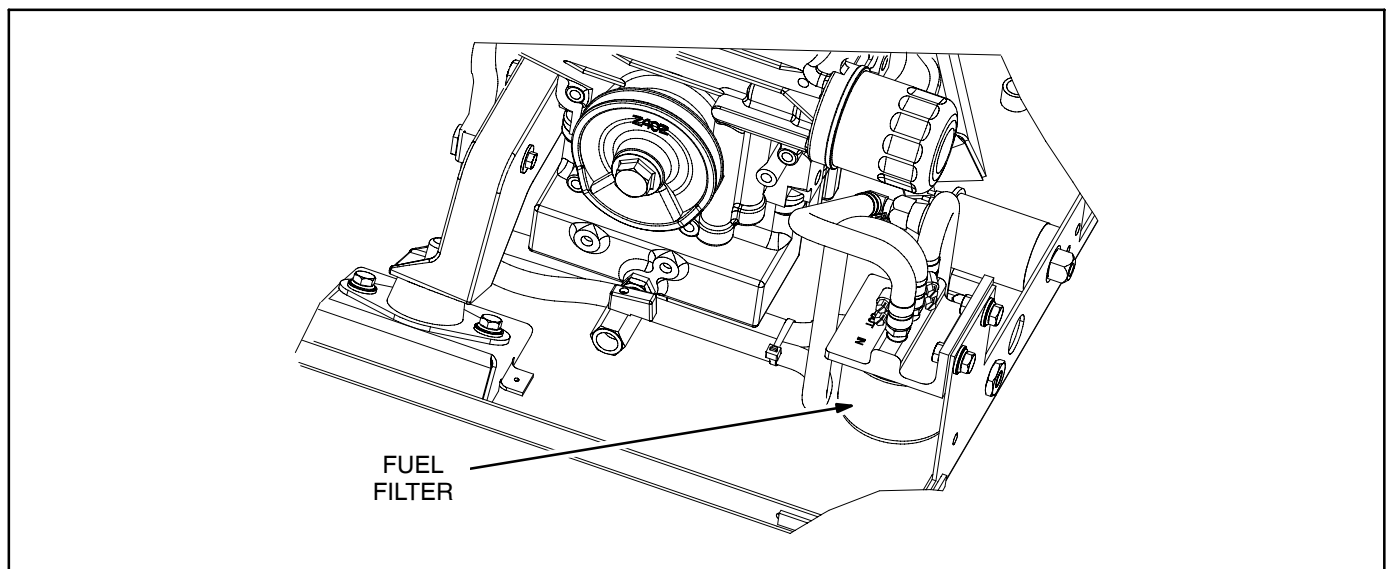

FIGURE 3-3. FUEL FILTER
2. Open the front access door and spin off the old filter (Figure 3-3) and dispose of it in accordance with local environmental regulations.